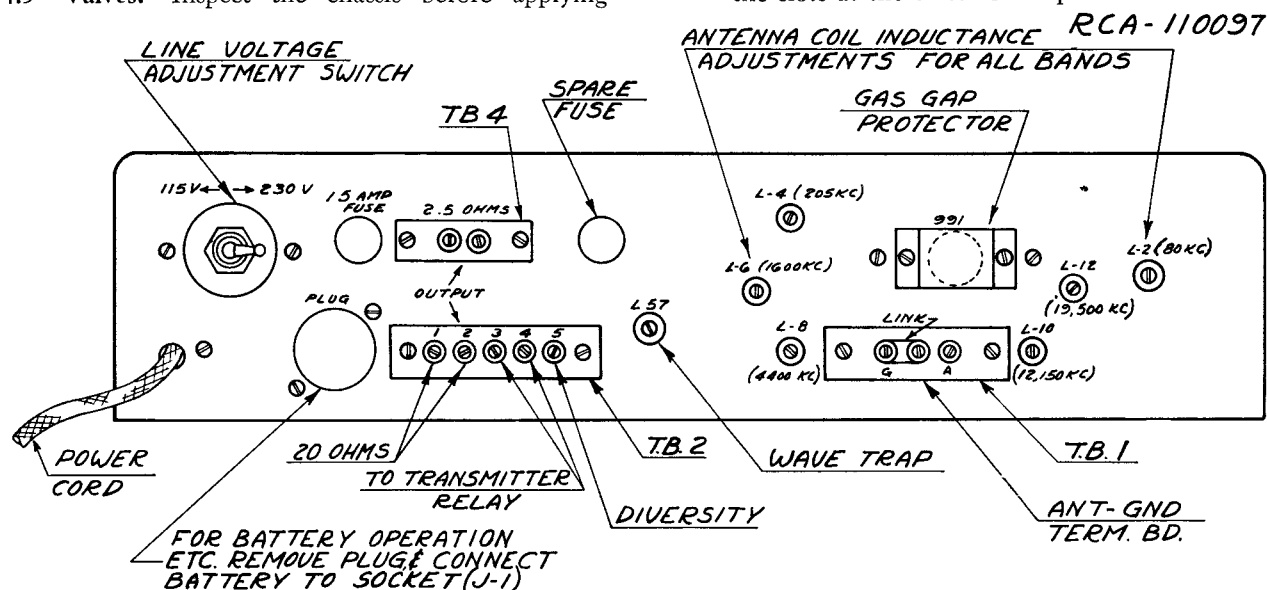

Figure 3.—General Purpose Communications Receiver—Rear Apron
- 2.2 **Input Coupling:—**The antenna coupling system is designed to provide optimum coupling from a 200 ohm transmission line, but equivalent performance is realized with a straight line antenna (see Section 4.4) with a conventional lead-in wire. The first tuned circuit is provided with a trimmer condenser adjustable from the front panel. This insures the proper tuning of this circuit with any antenna system. For all bands, conventional antenna and ground connections may also be used. The antenna terminal board is provided with three terminals (see Figures 3 and 7), two of which may be joined together with a link. When a single wire antenna is used, the link should be closed and the antenna connected to "A". If a ground is used, it should be connected to "G".
4.5 **Speaker**:—Terminals for connection of a loudspeaker are indicated in Figures 3 and 7. The output transformer is designed to match a p.m. dynamic speaker having 2.5 ohms impedance.
2. Transmit position which gives energized tube filaments, open plate circuits, and shorted terminals (for transmitter relay) on the speaker terminal board on the back of the chassis. (3. & 4. on T.B.-2.). Connect relay to these two terminals for transmitter operation. (See Figure 3.)
Refer to Figure 3: Connect together the terminals, marked "Diversity" of the receivers, and equip each receiver with a separate antenna. Tune each receiver to the same station as explained in Section 5.12 above.